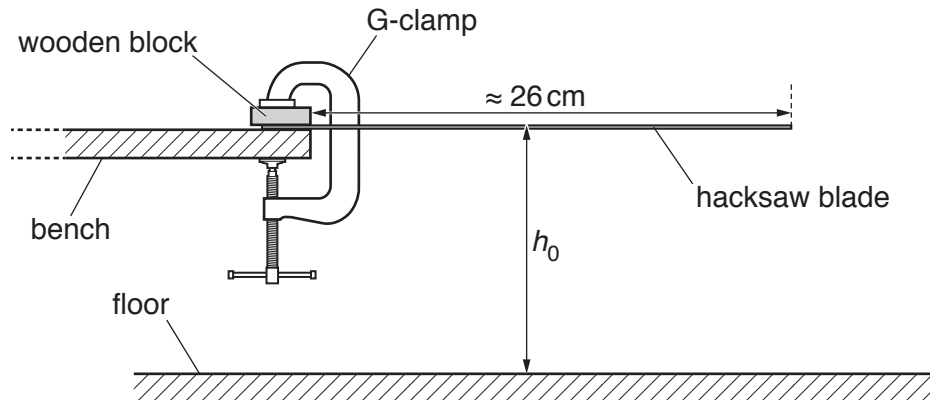

Fig. 2.1 (not to scale)
- (a)** • Assemble the apparatus as shown in Fig. 2.1.
- The vertical distance from the floor to the top surface of the hacksaw blade is h_0 , as shown in Fig. 2.1.